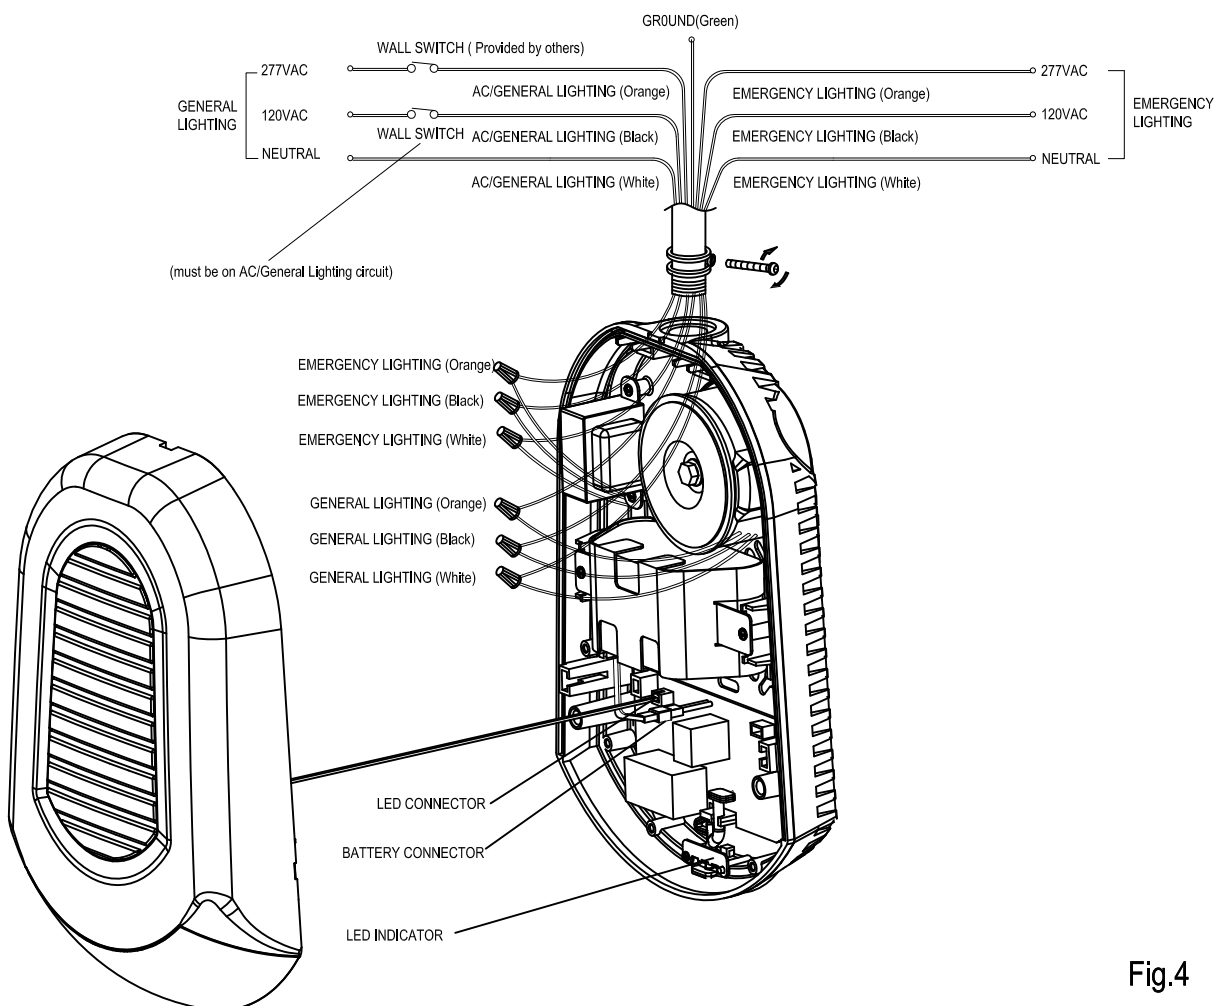

Fig.4
3. Secure the screw on conduit entering back plate (see Fig.4).
5. Connect battery connector, confirm LED connector from top cover is connected (see Fig.4).